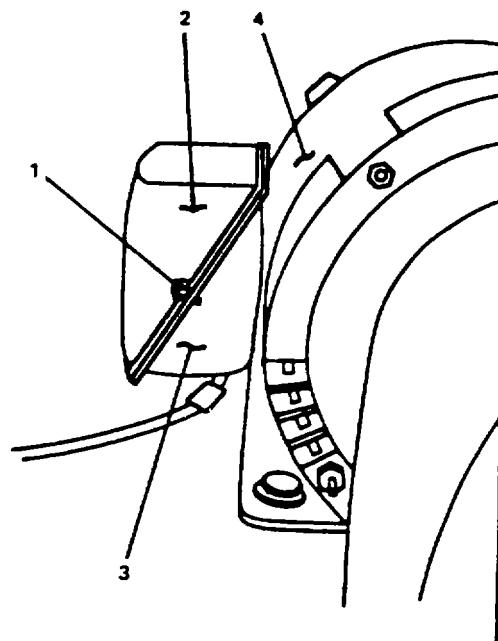

Figure 2-132. Electric Junction Box.
- Remove screws (1, Figure 2-132) holding electrical junction box cover (2). Remove cover.